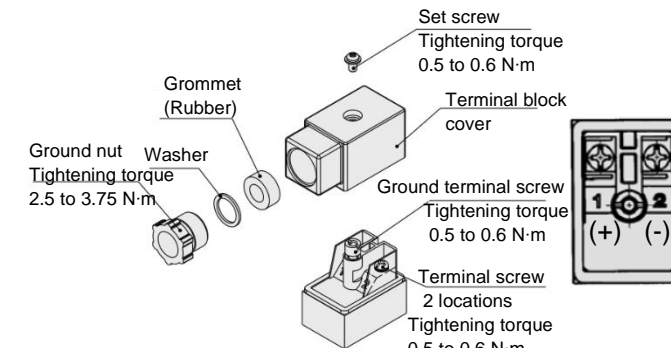

Figure 14. Conduit terminal assembly
- For polar type refer to terminal polarity shown in figure 14.